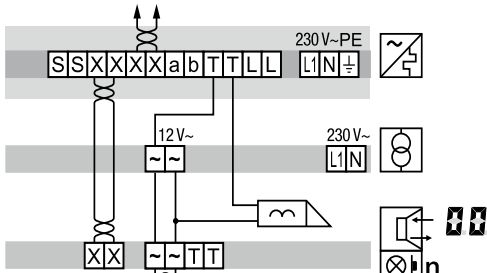

Figure 9: Connection of door station with manipulation-protected door release
- FF for an installation with anti-tamper system, connect the door release to the contact **FF** of the line power supply (figure 9).